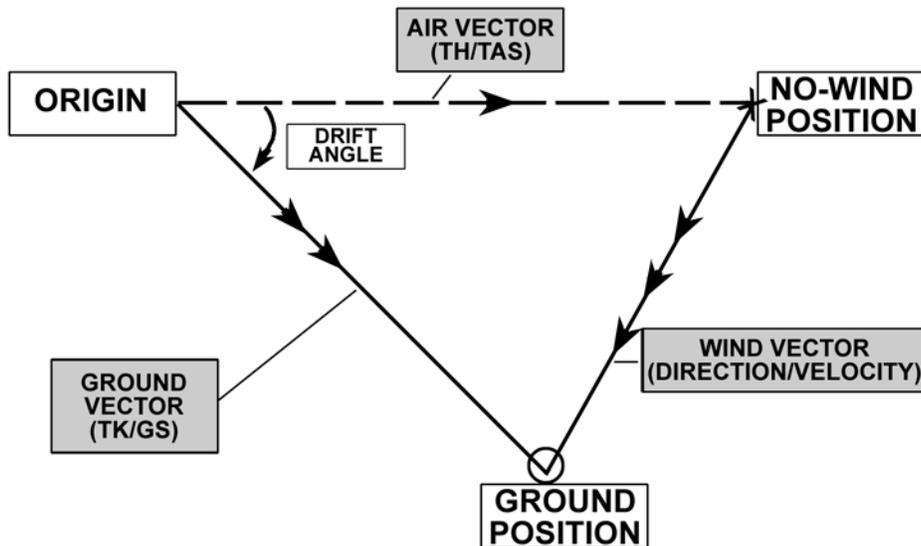

Figure 6.2-1 Wind Triangle
The actual winds encountered in flight will often differ from the forecast winds. In order to stay on the intended course, the Warrior-Navigator must be able to compute the actual winds aloft using the information gathered during the flight. After takeoff from the departure point and enroute to the destination, the aircraft position will periodically require fixing by either visual or electronic means, or both. Once a fix is determined, Track (TK) as well as the Ground Speed can be calculated. These values, combined with TH and TAS, can then be inputted into the CR-3 to determine actual in-flight winds (Figure 6.2-1).